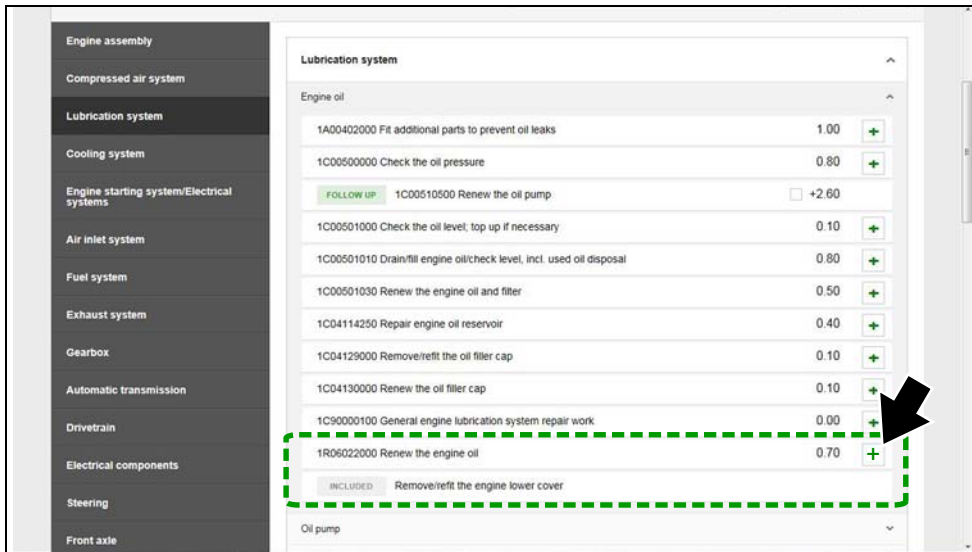

Figure 9-21
2. Choose the applicable job by selecting the + mark (Figure 9-21).